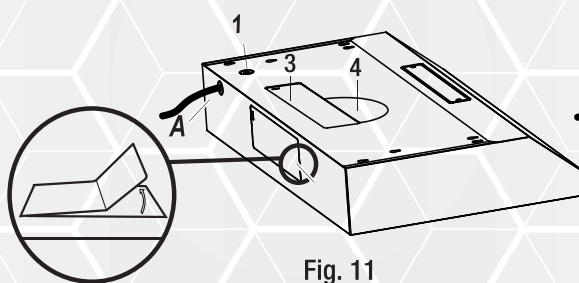

Fig. 11
- Choose the venting hole to remove for your installation type. Use the top holes (3 & 4) for a top venting installation and the back hole (5) for a back venting installation.
- Carefully remove the cover (3, 4 or 5) of the appropriate venting hole using a flat head screwdriver or needle nose pliers (refer Fig. 11). Be careful not to leave any debris inside the range hood (A).